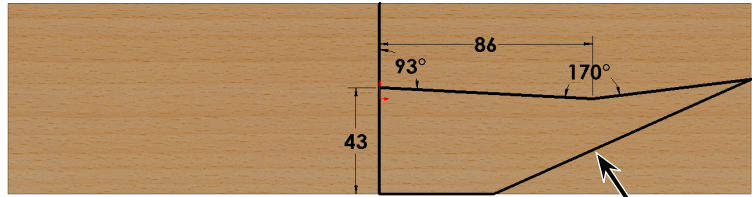

Fig. 4
Step 1. Click **Spline**  (S) on the Sketch toolbar.
Step 2. Draw a **2 Point Spline** from endpoint of angled line to endpoint of horizontal line, **Fig. 4**. Press Escape to end spline.